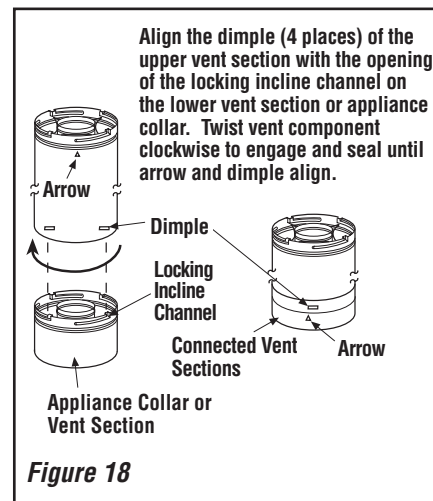

Figure 18
B. Attach vent components to appliance - Secure Vent SV4.5 direct-vent system components are unitized concentric pipe components featuring positive twist lock connections (see **Figure 18**).
To attach a vent component to the appliance collar, align the dimpled end over the collar, adjusting the radial alignment until the four locking dimples are aligned with the inlet of the four inclined channels on the collar (refer to **Figure 18**). Push the vent component against the collar until it fully engages, then twist the component clockwise, running the dimples down and along the incline channels until they seat at the end of the channels. The unitized design of the **Secure Vent™** components will engage and seal both the inner and outer pipe without the need for sealant or screws. If desired, a #6 x 1/2" screw may be used at the joint, but is not required as the pipe will securely lock when twisted.
Push the vent component against the previous section until it fully engages, then twist the component clockwise running the dimples down and along the incline channels until they seat at the end of the channels. **This seating position is indicated by the alignment of the arrow and dimple as shown in Figure 18.**
Secure Vent SV4.5 direct-vent system components are unitized concentric pipe components featuring positive twist lock connection, (refer to **Figure 18** on **Page 14**). All of the appliances covered in this document are fitted with collars having locking inclined channels. The dimpled end of the vent components fit over the appliance collar to create the positive twist lock connection.
D. Attach vent components to appliance - To attach a vent component to the appliance collar, align the dimpled end over the collar, adjusting the radial alignment until the four locking dimples are aligned with the inlets of the four incline channels on the collar (see Figure 18 on Page 14).
Push the vent component against the previous section until it fully engages, then twist the component clockwise running the dimples down and along the incline channels until they seat at the end of the channels. **This seating position is indicated by the alignment of the arrow and dimple as shown in Figure 18 on Page 14.**
The elbows feature a twist section to allow them to be routed about the center axis of their initial collar section to align with the required direction of the next vent run element. **Twist elbow sections in a clockwise direction only so as to avoid the possibility of unlocking any of the previously connected vent sections (see Figure 18 on Page 14).**